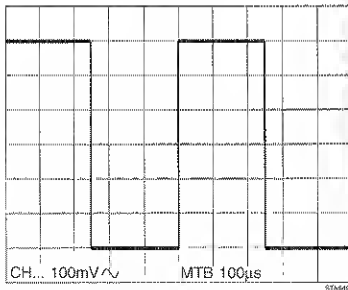
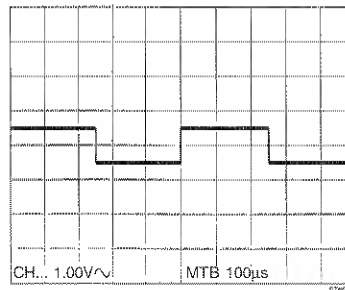

Figure 3.3
Figure 3.4
- Verify that a square wave as indicated in Fig. 3.3 is displayed; in case of an AMPL toggle key on CH3/CH4, the vertical amplitude is 0.6 divisions instead of 6 divisions. The corresponding display is shown in Fig. 3.4.
- Turn the POS control CCW until the display of Fig. 3.3 or Fig. 3.4 is obtained again.
- Press the AC/DC/GND key so that ac input coupling ( $\sim$ ) is obtained. The waveform as indicated in Fig. 3.3 or Fig. 3.4 is displayed again.
- Verify that a square-wave as shown in Fig. 3.3 is displayed.
- Press the TRIG 1 key again and verify that the displayed square-wave starts with a positive-going slope as indicated in Fig. 3.3.
- Select 100  $\mu$ s/division with the MAIN TB TIME/DIV keys and verify that the square wave is displayed as shown in Fig. 3.3.